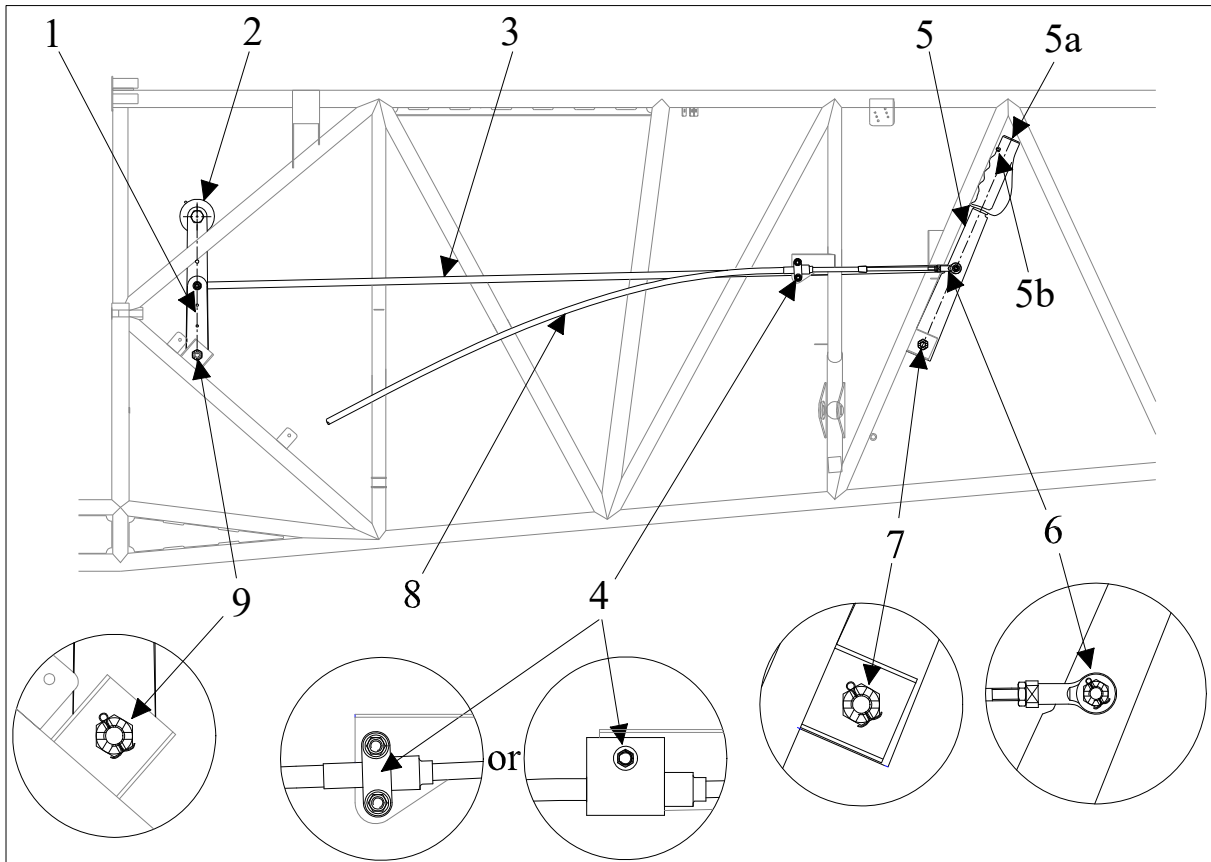

Figure 3
- 13 Remove cotter pin, castle nut, washers and bolt and remove the rod end (6, figure 3) from the throttle control lever (5).
- 16 Remove clamp block (4) attachment bolt(s).
- 17 Remove clamp block from the throttle control cable (8).
- 4 Remove cotter pin, castle nut, washers and bolt (6, figure 3) and the throttle control linkage (3) from the throttle control lever (5).
- 7 Disconnect throttle control lever attachment by removing cotter pin, castle nut, washers and bolt (7). Remove throttle control lever.
- 1 Thread the intercom switch (5b, figure 3) and the smoke switch (5a) wiring through the throttle control lever (5) before mounting the lever to the attachment bracket.
- 2 Tighten the throttle control lever castle nut (7) slightly. Ensure movability of control levers (1 & 5).
- 1 Move the rear throttle control lever (5, figure 3) in idle position parallel to the adjoining fuselage structure steel tube (as shown in figure 3).
- 4 If necessary adjust rod ends (2, figure 4; 6, figure 3) to ensure correct over-travel by the following steps:
- a Remove cotter pin, castle nut, washers and bolt of the rod end from throttle lever (1, figure 4) and rear throttle control lever (6, figure 3).
- 4 Disconnect the throttle control linkage (3, figure 3) from the front throttle control lever (1).
- 5 Disconnect the throttle control handle (2) from the front throttle control lever (1).
- 6 Disconnect throttle control lever attachment by removing cotter pin, castle nut, washers and bolt (9) and remove throttle control lever.
- 7 Install in reverse sequence of removal. Tighten the throttle control lever castle nut (9) slightly. Ensure movability of levers.
Refer to Figure 3 and Figure 4.